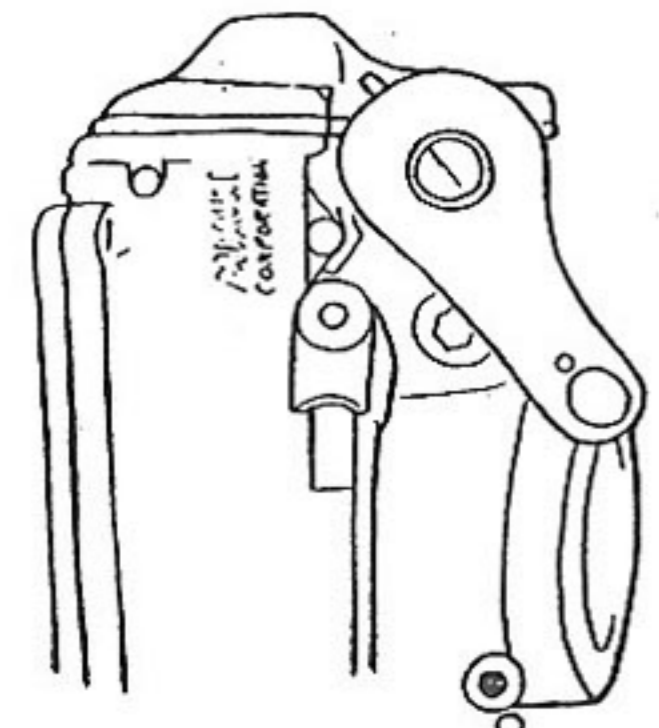

figure 4
- Step 14 Start winding lever assembly 180 degrees clockwise while continuing to hold the carburetor slide closed. (For end position of cruise lever, refer to figure 4)